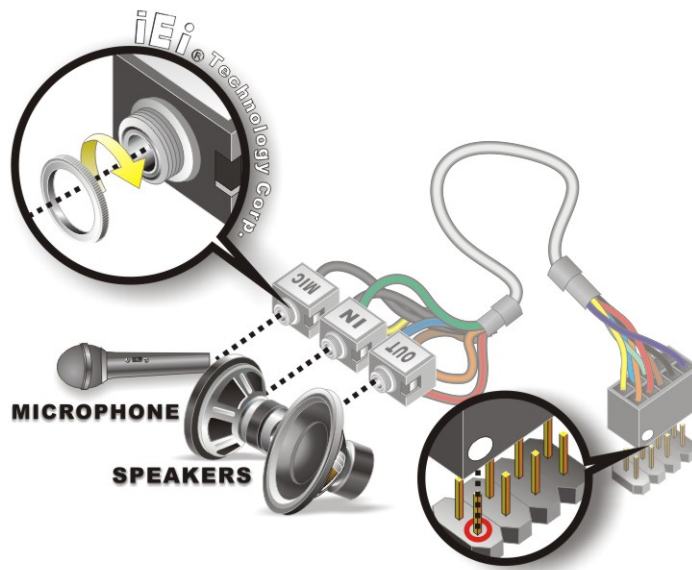

Figure 4-11: Audio Kit Cable Connection
Step 2: **Align pin 1.** Align pin 1 on the on-board connector with pin 1 on the audio kit connector. Pin 1 on the audio kit connector is indicated with a white dot. See **Figure 4-11**.